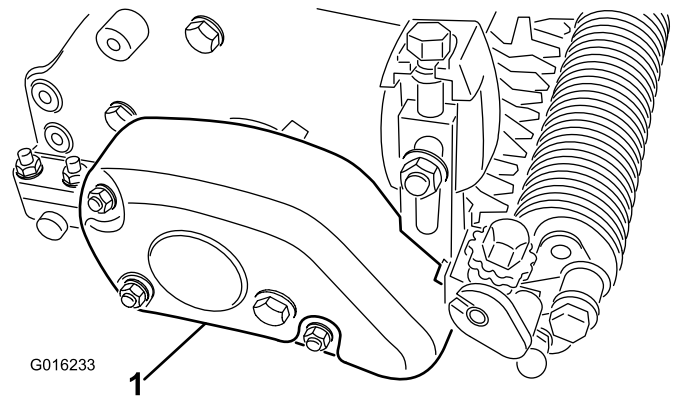

Figure 26
1. Remove the belt cover from the groomer housing (Figure 26).